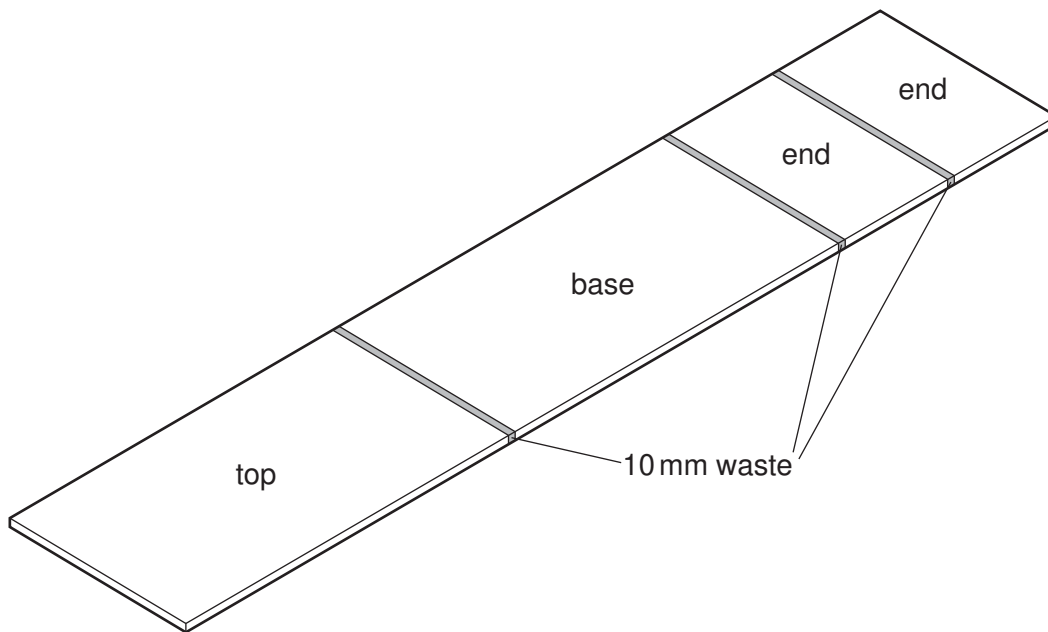

Fig. 5
- (b) Fig. 5 shows the table top, base and ends of the table marked out on a length of veneered manufactured board.